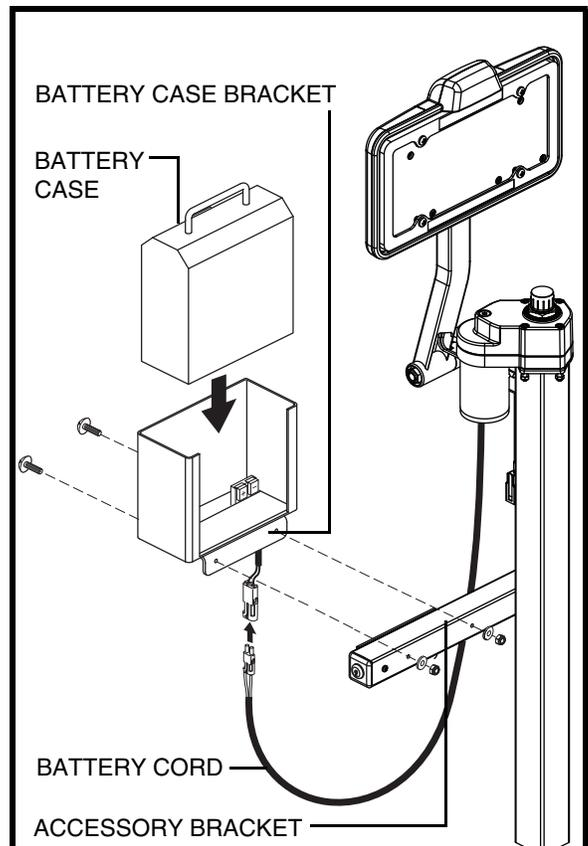

Figure 9. Onboard Battery Installation
1. Align the mounting holes in the battery case bracket with those in the accessory bracket located under the key switch tube. **See figure 9.**
2. Secure the battery case to the accessory bracket with the supplied hardware. **See figure 9.**
4. Plug the battery cord on the bottom of the battery case into the mating connector running from the motor. **See figure 9.**